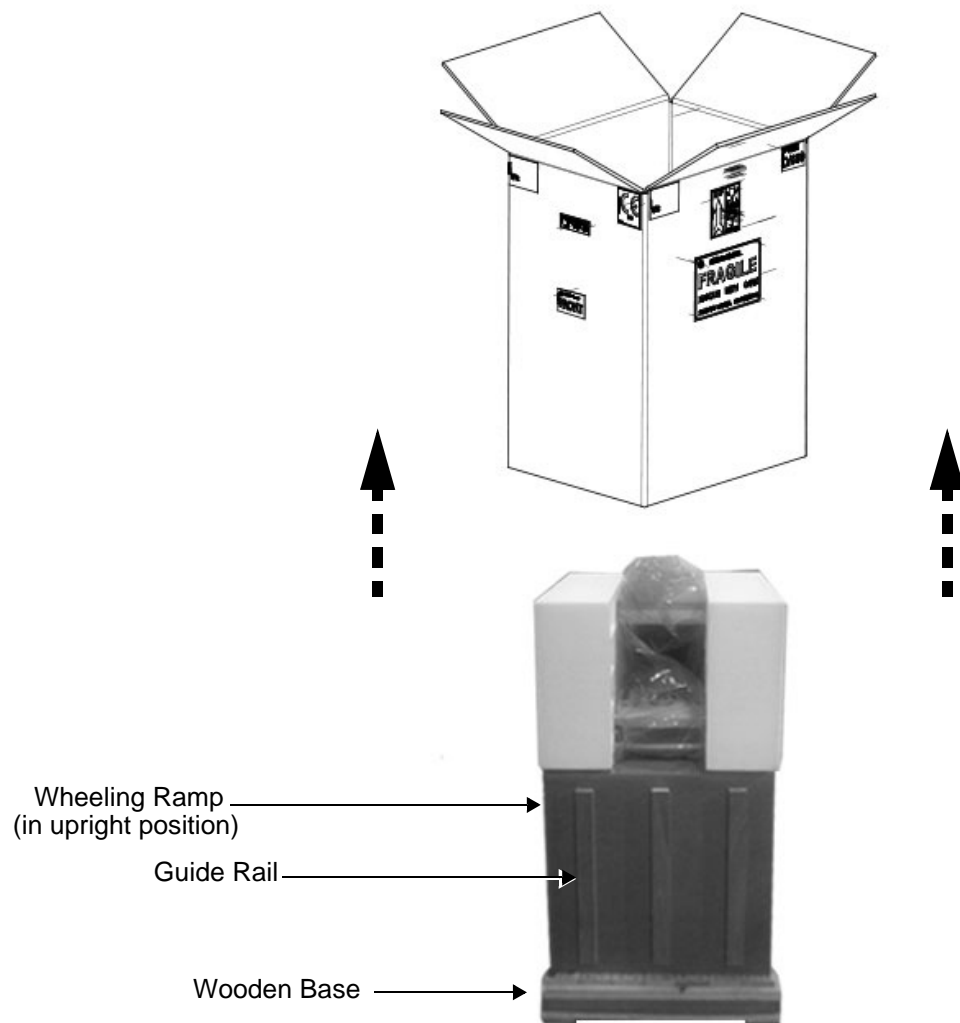

Figure 3-5 Wheeling Ramp in Upright Position
- 3.) Remove the outer cardboard walls pulling them gently *upwards* and away from the system (Figure 3-5).